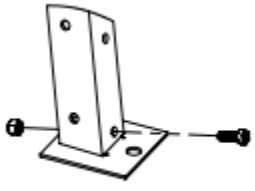

Fig 1
1. Attach tower feet to tower legs with 3/8 x 1" bolts & 3/8" nylon lock nuts. (Fig 1)